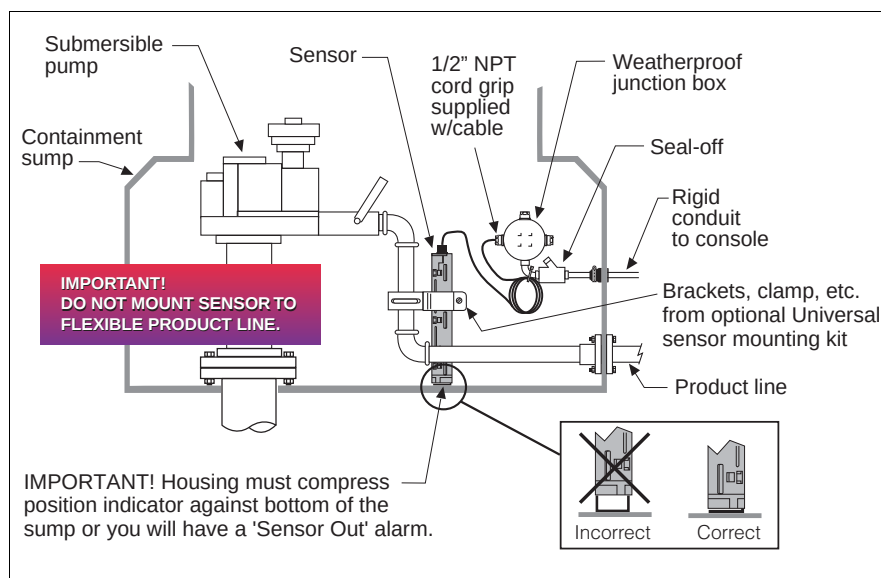

Fig. 5 Example Position-Sensitive Sensor Installation
- Universal Sensor Mounting Kit (optional) - P/N 330020-012 (see Fig. 5)